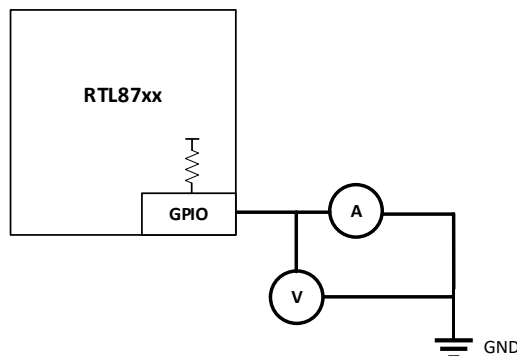

Figure 6-2 I/O Pull up resistor test
- (1) Configure the GPIO to be tested as input mode.
- (2) Configure the GPIO registers to be tested as 1 for pull-up and 0 for pull-down (Table 6-3).
- (3) For GPIOs with multiple pull-up resistance values, it is necessary to change the configuration of the register GPIO_BIT_PUPDC and test them separately.
- (4) When the ammeter is not connected, measure the voltage of the GPIO pin to be tested, and the voltage value is V_1 .
- (5) According to Figure 6-2, only connect the ammeter to test. At this time, the current value is I_1 , and the pull-up resistor is $R_{pu}=V_1/I_1$.